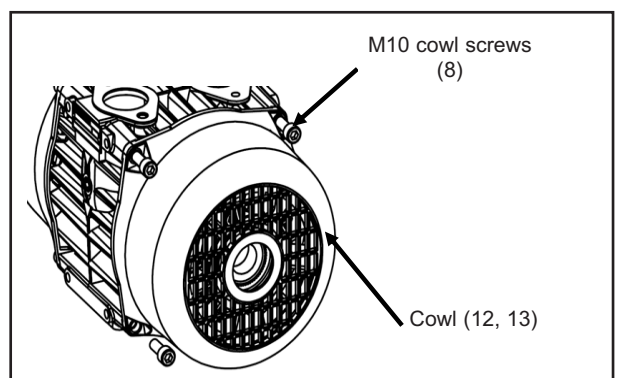

Figure 29
7. Install both cowls (12 and 13) over the fans with the M10 cowl screws (8). Torque cowl screws to 26 lbs ft (35 N.m). See figure 29.